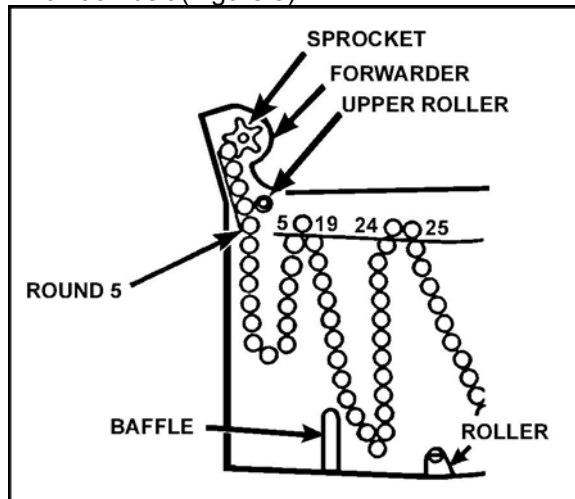

Figure 5. Rounds in forwarder.
8. Gunner forwards the ammunition belt (Figure 5).